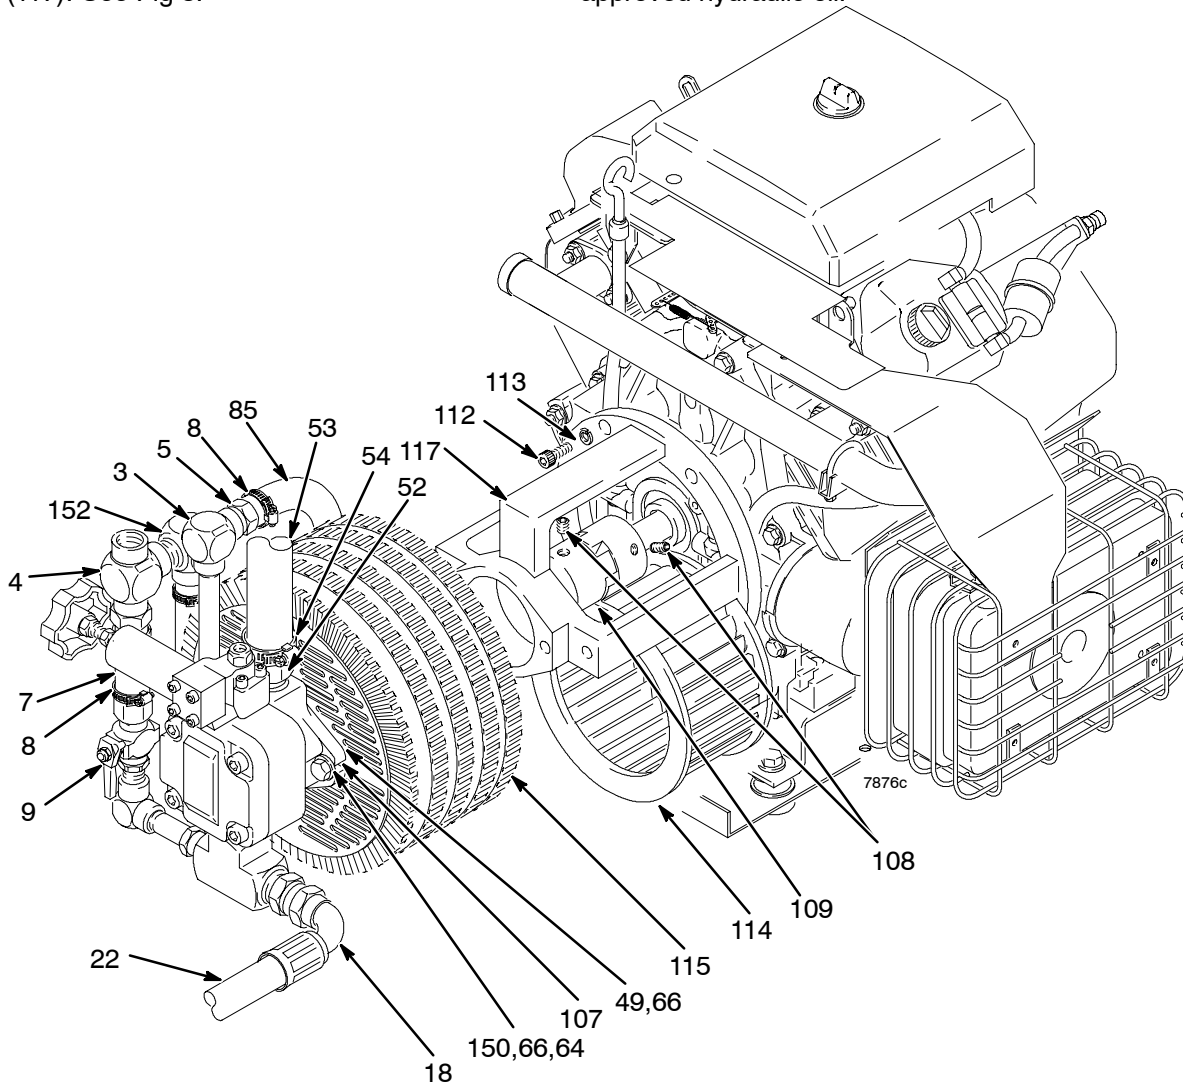

Fig 8
3. Disconnect the hose (7) from the bypass valve (9) by loosening the hose clamp (8). See Fig 8.
4. Loosen the hose clamp (8) and pull the hose (85) off the hose insert (5) near the elbow (3). See Fig 8.
5. Loosen the hose clamp (54) on the hose (53) just above the hydraulic pump (107). See Fig 8.
6. Loosen the tube fitting nut (18) of hose (22). See Fig 8.
7. Remove the two capscrews (150), lockwashers (66) and washers (64) holding the pump (107) to the support (117). See Fig 8.
3. Disconnect the cooler to reservoir return hose (7.) by loosening the hose clamp (8). See Fig 8.
4. Remove the cooler capscrews (49) and lockwashers (66). See Fig 8.
5. Remove the fan guard (23, page 36). See Fig 8.
6. Pull the cooler (115) straight out.
8. Inspect the blower wheel (114) for wear. See Fig 8. If it needs to be replaced, follow Steps 8a-8e.
- b. Remove the capscrews (112) and lockwashers (113) holding the pump support (117) to the engine and pull the support off. See Fig 8.
- d. Install a new blower. Secure the pump support (117) to the engine. See Fig 8.
10. Fold the flaps of the pad (116) toward the cooler fins and install the fan guard (23, page 36), capscrews (49) and lockwashers (66). See Fig 8.